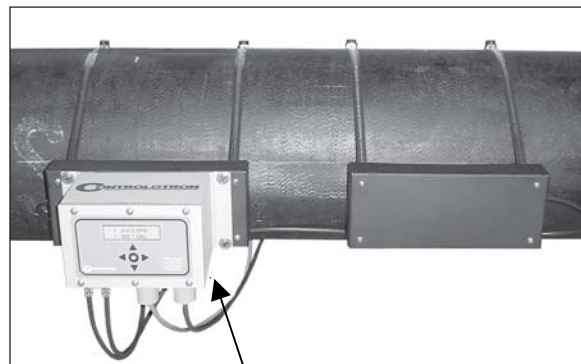

Figure 2
- Secure Integrated Flowmeter/Mounting Track Cover Assembly to Mounting Track Assembly and secure with four screws (Figure 2).